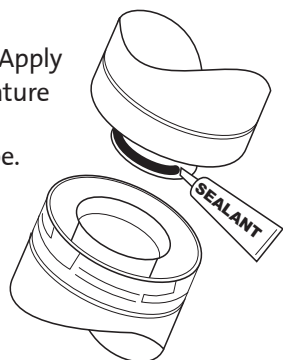

Figure 9. Seal each inner joint before joining pipe.
- **Joint Sealing Requirement:** Apply a 1/8" bead of high-temperature (750°F) sealant to the male section of the inner vent pipe. See fig. 9. The cement should seal the inner pipe from the outer pipe.